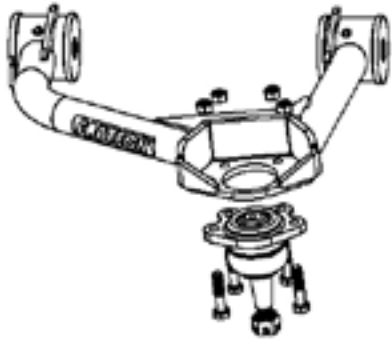

FIGURE 32 - STEP 24
24. Install FT20619 (Ball joint) onto the new upper control arm using the supplied 5/16"-18 x 1" bolts, washers and nuts from the hardware kit. Lube ball joint through zerk fittings. Torque to 29 ft-lbs. **SEE FIGURE 32**